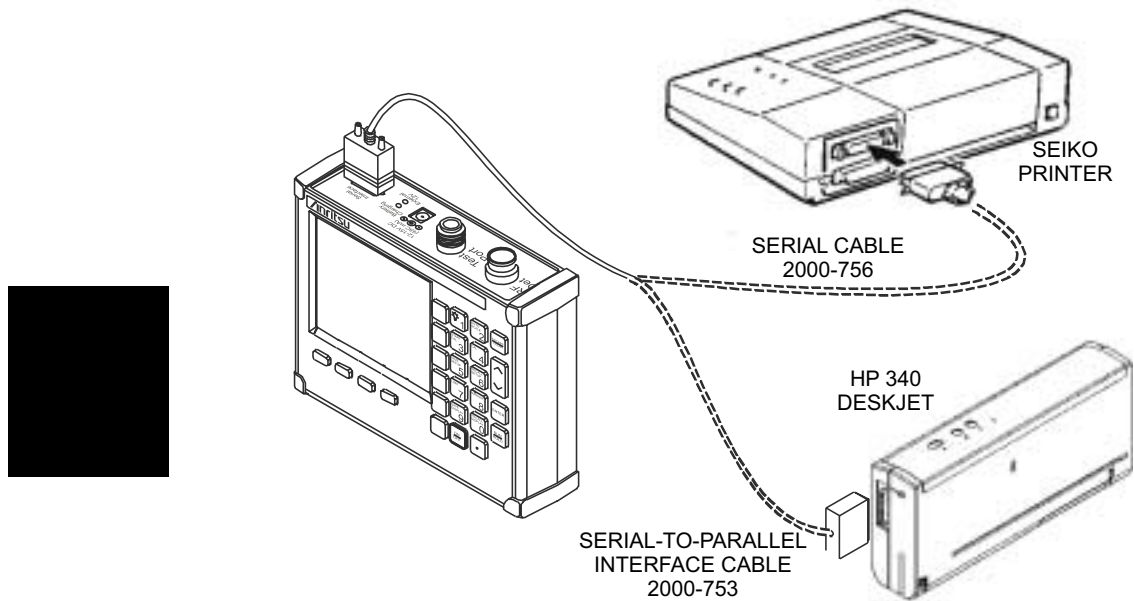

Figure 2-9. Printer Setup
Printing is accomplished using the Seiko DPU-414 thermal printer, the Hewlett Packard DeskJet 340 ink jet printer, or any printer listed in the MS2711A printer selection table. Figure 2-9 shows a setup diagram for two types of printers. Refer to the printer manual for setup details.
Step 1. Connect the printer as shown in Figure 2-9.